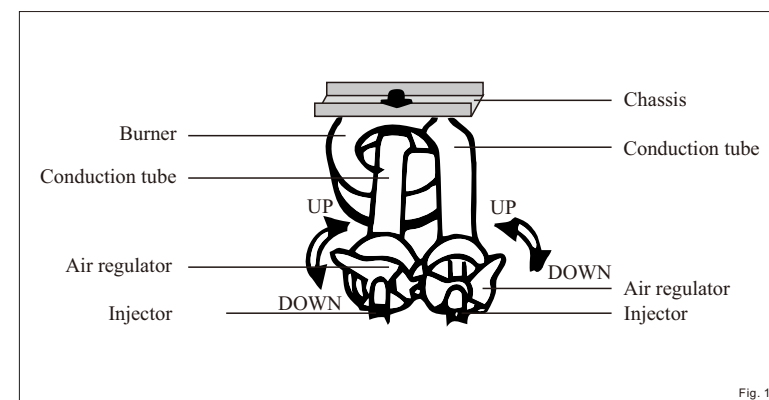

Fig. 17
1.Should the flame be: of a yellow colour, burning black, floating flame or deposit carbon beneath the cooking utensils, this would indicate a misadjustment of the air and gas mixture. To correct this, you need only to adjust the air regulator in the conduction tube in the following way:(Fig. 17)